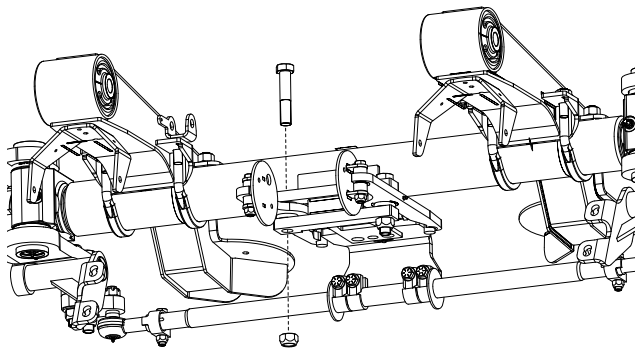

Figure 7: Lock-straight arm assembly pivot bolt removal
5. Remove lock-straight arm pivot bolts (Figure 7) for both lock-straight arm assemblies.